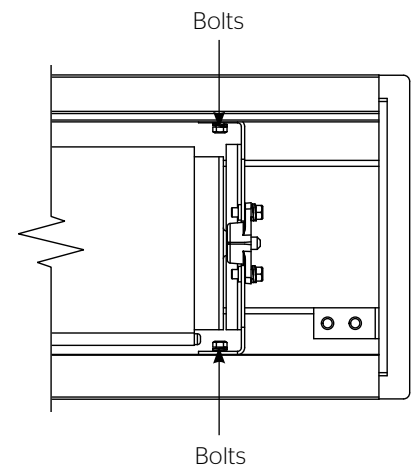

Figure 4
5. Use a 1/2" open wrench or socket driver to loosen the four bolts that secure pin end mounting bracket into housing. Lift pin end of roller into position and slide the bracket into the roller pin. Tighten all four bolts. Slide the pin end bracket towards the end of the case (Figure 4).